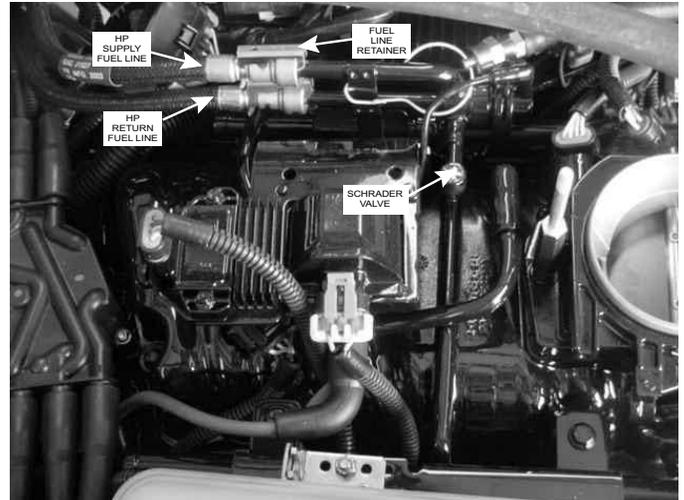

Figure 1-12 FWC Service Points - Fuel Lines - Top
21. At the schrader valve located on the fuel rail, use the appropriate tool and approved container to bleed fuel pressure from the fuel lines. Release the fuel line retaining clips from both the high pressure and return fuel lines, at the fuel rail. Using the appropriate tool, release both lines from the fuel rail. Fuel lines will contain some residual fuel, take appropriate measures to minimize fuel spillage. Remove both the HP supply and HP return fuel lines from the FCC and discard. Refer Figure 1-12.
24. Remove (3) bolts and (3) lock washers securing the FCC/LPFP bracket to the port head of the engine. Remove bracket with FCC and LPFP attached and set aside.